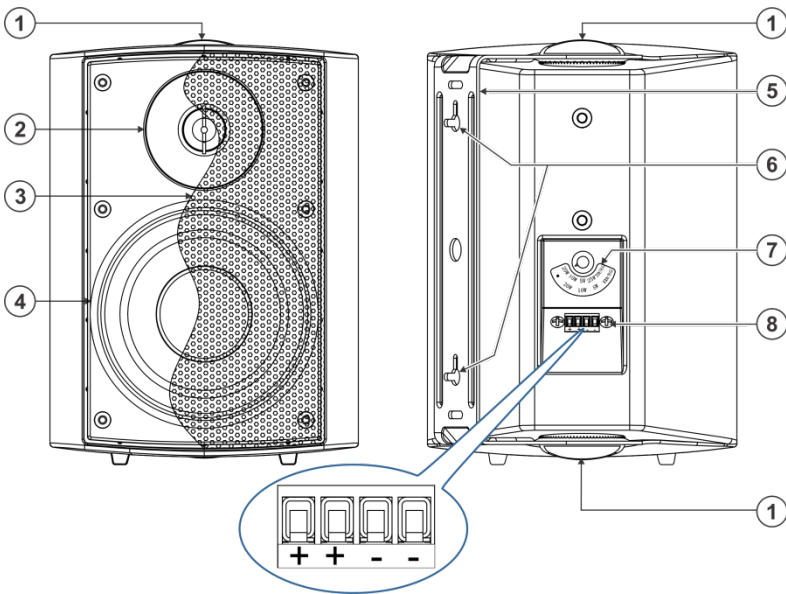

Figure 1: SPK-W511T
5. Connect one of the + and – terminal block pairs on the rear panel (see Figure 1) by connecting the wire from the: